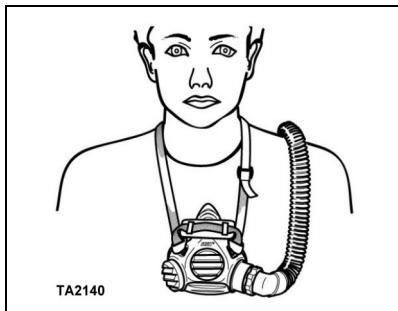

Fig. 1
4. Adjust the harness so that the buckle is away from the mask and the head pad rests on top of the mask. Place the strap around the neck (see Fig. 1).